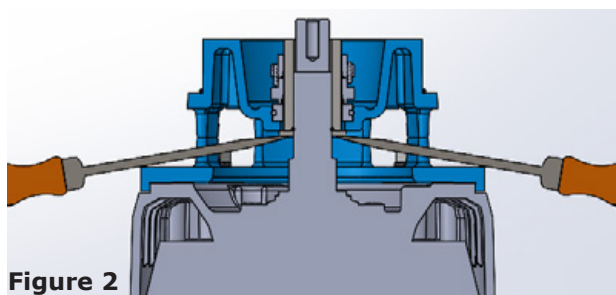

Figure 2
9. Pry the rotating member of the seal away from the motor by inserting two screwdrivers 180 degrees apart under the flinger and prying evenly until flinger hits the adapter (Figure 2).